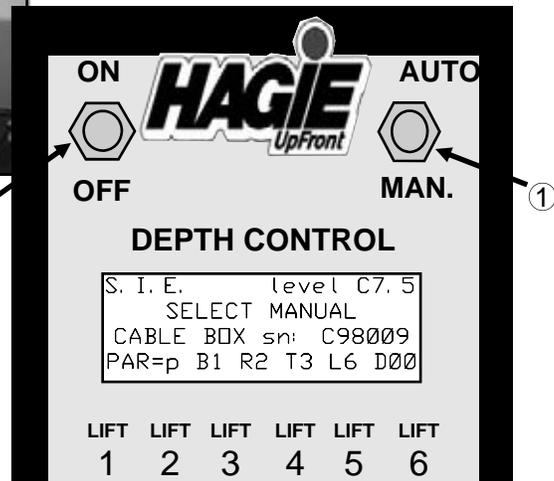

FIG 5.32
Select **AUTO** by placing the **AUTO/ MAN.** switch (fig. 5.32, item 1) in the **AUTO** position. Now turn on the **DEPTH CONTROL** (fig. 5.31) by placing the **ON/OFF** switch (fig. 5.32, item 2) in the **ON** position.